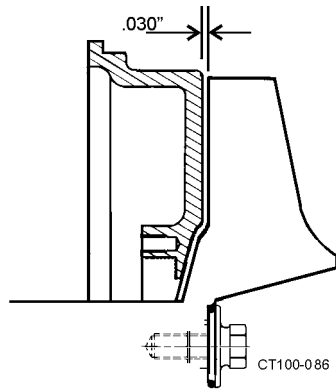

Figure 11 - Clearance Between Impeller and Backplate
- Check the space between the back of the impeller and the backplate with a feeler gauge (.030 nominal) while holding the backplate tight against the bearing housing flange. (Any axial movement of the shaft should not be added to the .030 nominal clearance). (Figure 11). If needed, change this clearance by adding or removing shims. Shims (Figure 12, item A) are added on the drive shaft (Figure 12, item C) behind the impeller shaft (Figure 12, item B).